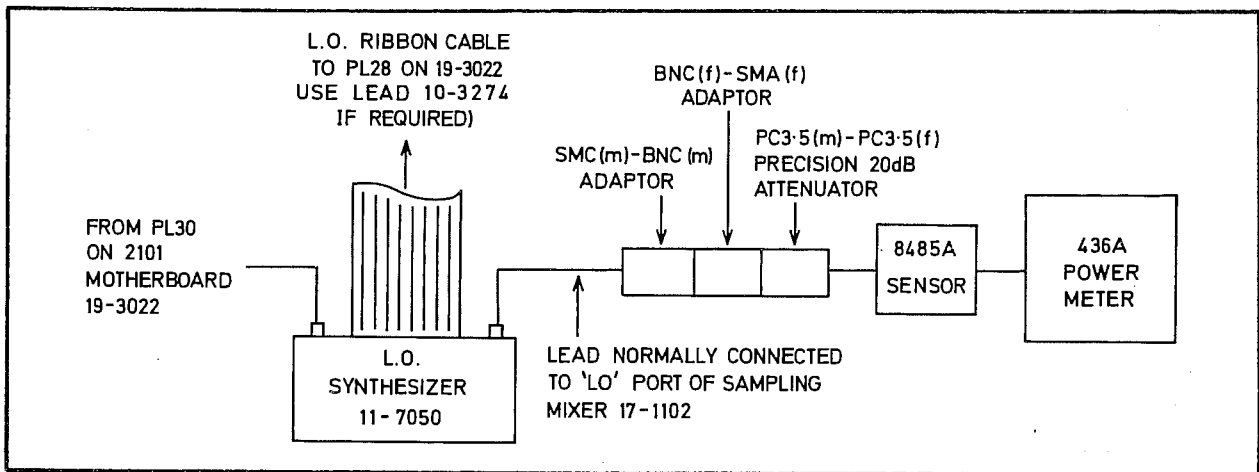

Fig. 7.8 Connections for Channel C Input System Adjustment (Pt. 1)
- 50 (1) Switch the 2101 off. Remove the module stack to gain access to the LO Synthesizer module located underneath the IF Processor module. Use the extended ribbon cable to connect the module to the 2101. Position the stack to one side of the 2101.
- (2) Disconnect the LO output coax at PL32/SK32 interface at the Sampling Mixer. Connect the equipment as shown in Fig. 7.8. Switch the 2101 on.